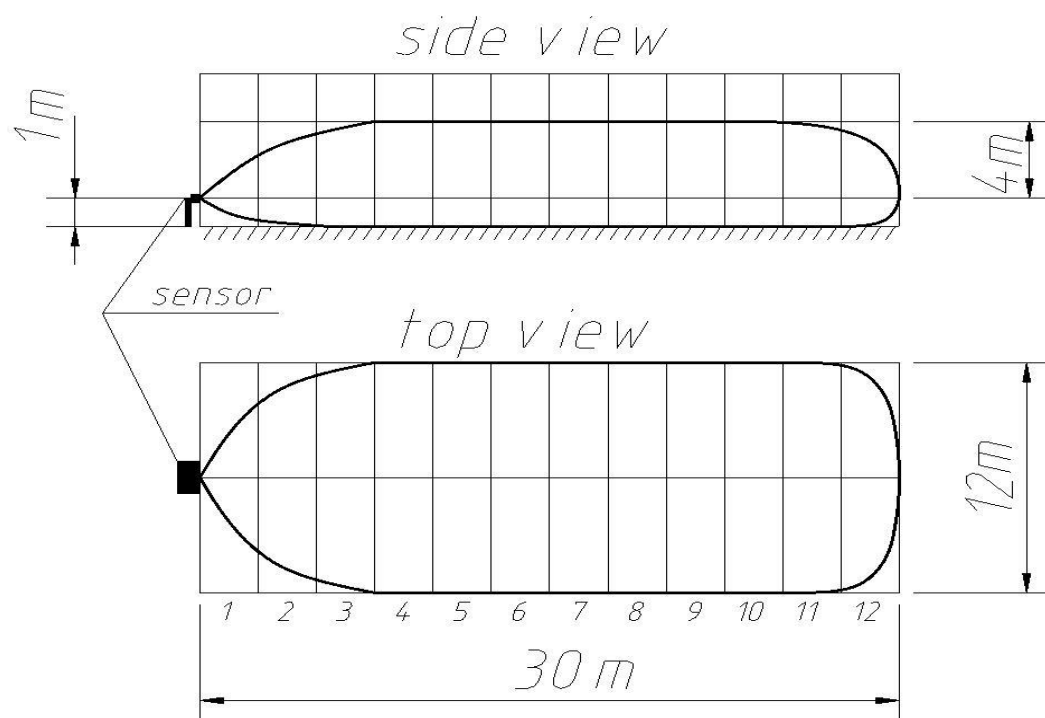

Fig. 8.1 Detection zone parameters of the modification Volume at the height of 1 m
8.3.5. Fix the sensor at a horizontal position (relative to the ground). The model of the detection zone form and its dimensions are shown in fig. 8.1, 8.2, 8.3 for modifications Volume, Curtain, Fan. Under the figures is given the numeration of the subzones from 1 to 12.